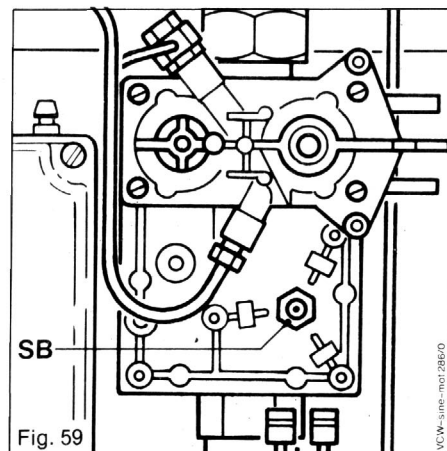

Fig. 59
14.5.4 Change of gas section stuffing box (Fig. 59)